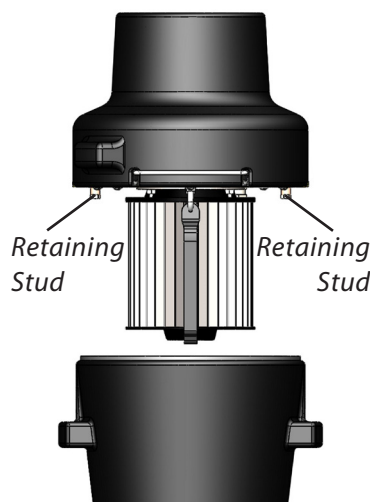
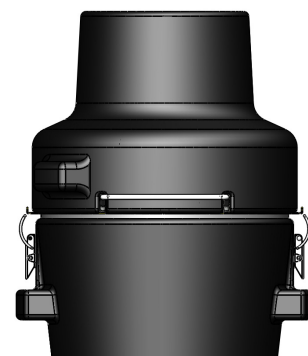

FIG. 12a
FIG. 12b
Align the two retaining studs on the bottom of the Motor Assembly (A) with the two notches on the Cone Assembly (B) [FIG 12a] and fasten these components together with Draw Latches (F24) on either side. [FIG 12b.]